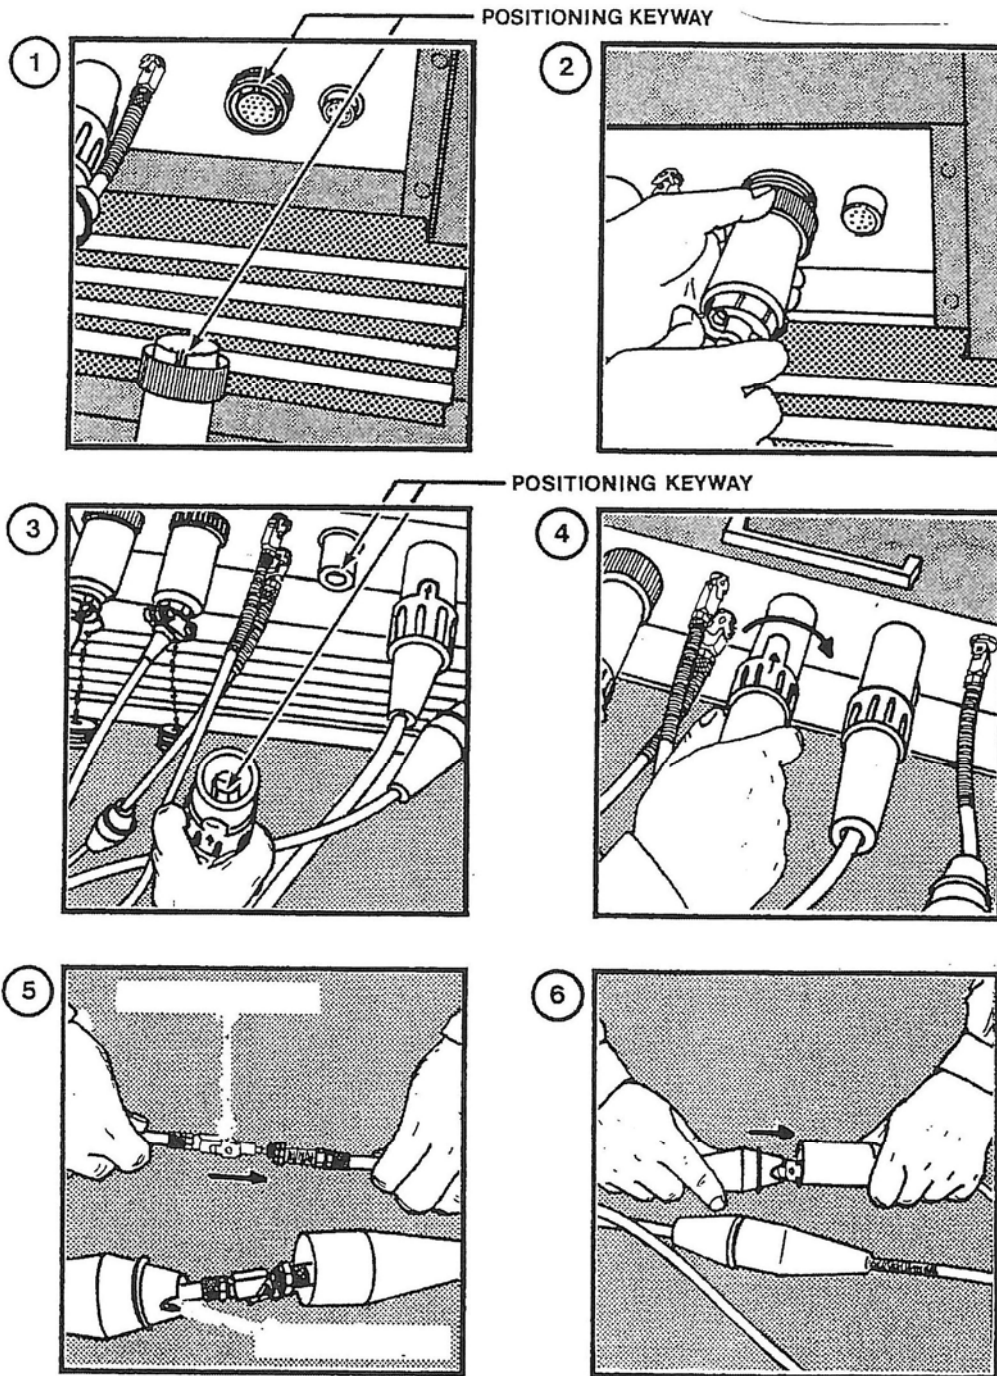

FIGURE 3
1. Connect the Weld Head Control Adapter Cable to the Power Supply PIPE Weld Head Connector on the Weld Head Connect Panel (left side top) on the Model 415. This is a keyed connector, insure that the correct end of the Cable is being connected. DO NOT FORCE, connections should be smooth and easy. See Figure 3, Item 1 and 2.
3. Connect the Cam-Loc connector of the Ground Cable to the Ground (work) Connector on the Weld Head Connect Panel (see Figure 3, Items 3 and 4).
5. Connect the Service Adapter Cable (weld head end) to the Weld Head Service Cable (gas, coolant and electrode quick disconnects). Be sure to install the Protective Boots on Fittings (see Figure 3, Items 5 and 6).